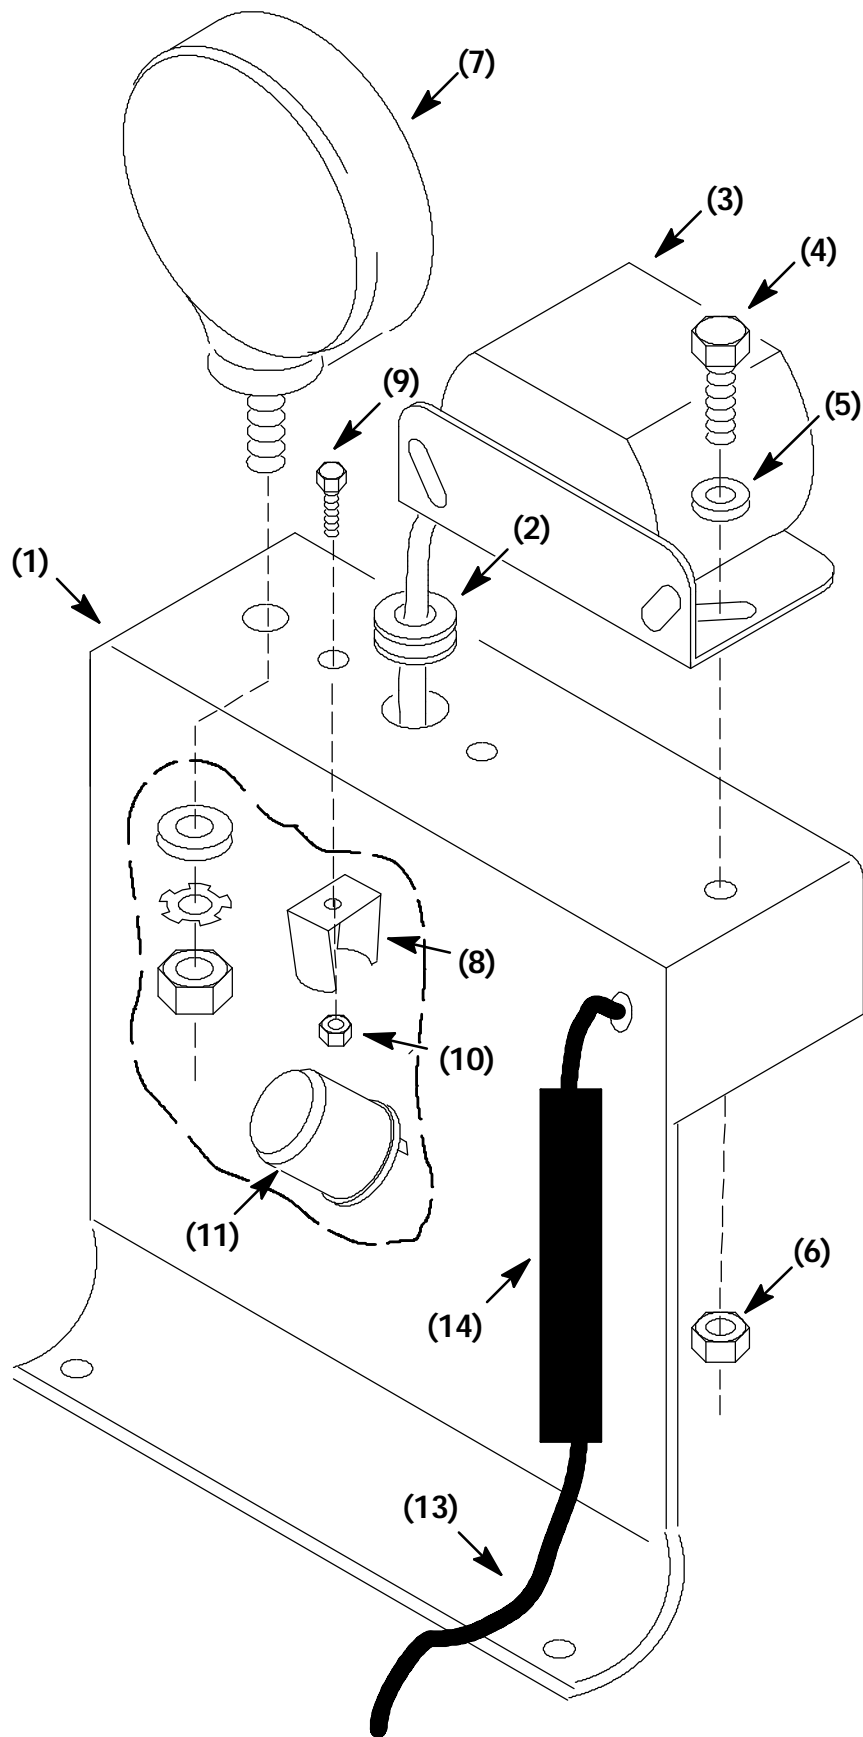

FIG. 2 - Back-up Alarm Assembly
1. Install the grommet (2) in the large hole on top of the mount bracket (1). (Refer to FIG. 2)
2. Install the head light (7) in the left hole on top of the mount bracket (1). Use the hardware included with the light (4). (Refer to FIG. 2)
3. Install the horn (3) on top of the mount bracket (1) using two hex screws (4), two washers (5), and two nyloc nuts (6). (Refer to FIG. 2)
4. Use the hex screw (9) and nut (10) to install the flasher bracket (8) under the top lip of the back-up alarm mount bracket (1). Install the flasher (11) into the bracket (8). (Refer to FIG. 2)
5. Connect the power wire from the new harness (13) to one of the terminals of the flasher (11). (Refer to FIG. 2 and 4)
6. Connect the red wire from the horn (3) to the jumper wire coming off the terminal on the flasher (11). (Refer to FIG. 2 and 4)
7. Connect the wire from the headlight (7) to the open terminal on the flasher.
(Refer to FIG. 2 and 4)
(Refer to FIG. 2)
(Refer to FIG. 2, 3, and 4)
2. Position the back-up alarm assembly behind the operators seat. (Refer to FIG. 2 and 3)